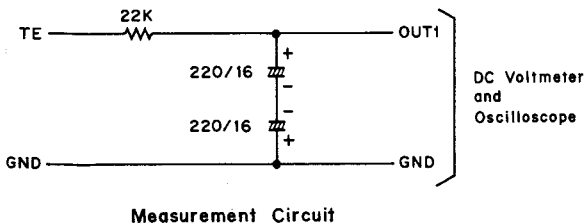

Fig.1
3. Attach the low-pass filter as shown in fig.1 to the tracking error terminal **TE** (CN09-5) and connect it into the oscilloscope and DC voltmeter.